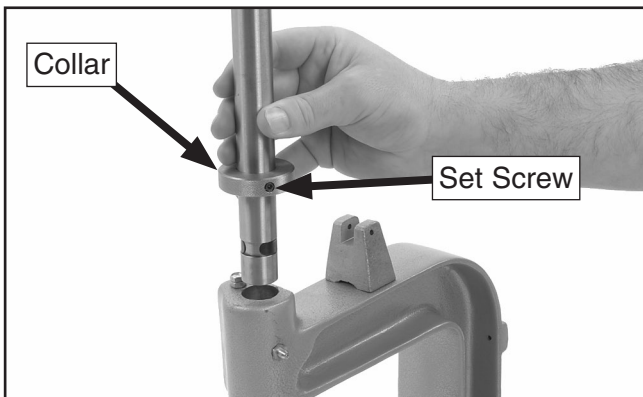

Figure 4. Sliding spindle into L-frame.
3. Slide the spindle into the L-frame as shown in **Figure 4**.